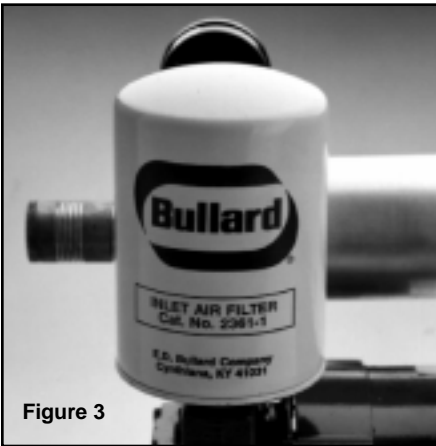

Figure 3
4. Make sure the pump's inlet filter is located in a clean, uncontaminated location where breathable air is assured at all times (see Figure 3).